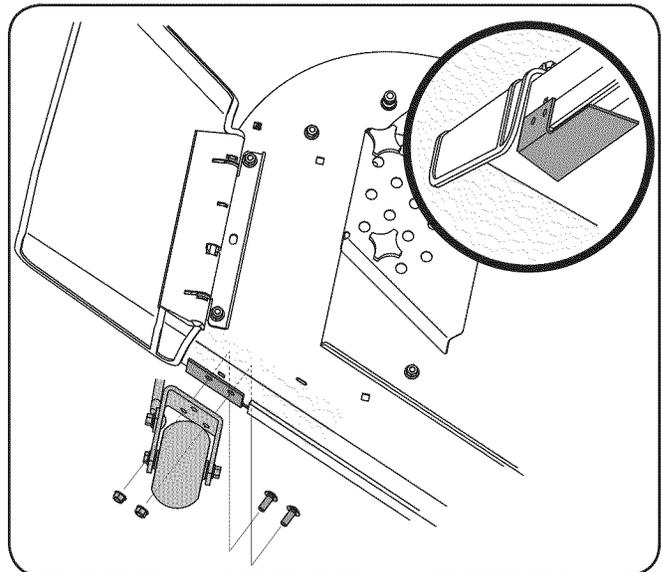

Figure 4-15
2. Install the baffle as seen in Fig. 4-15 using two 710-3097 carriage hex bolts from hardware pack 689-00147A and the lock nuts 712-0431. Reinstall the wheel to the deck with the baffle in between the wheel bracket and the deck as seen in Fig. 4-15. Insert the carriage bolts through the two lower holes and secure with the flange lock nuts.